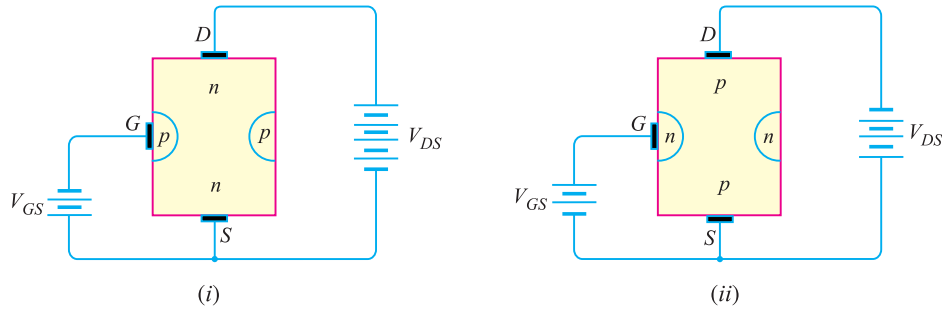

Fig. 19.2
**JFET polarities.** Fig. 19.2 (i) shows *n*-channel JFET polarities whereas Fig. 19.2 (ii) shows the *p*-channel JFET polarities. Note that in each case, the voltage between the gate and source is such that the gate is reverse biased. This is the normal way of JFET connection. The drain and source terminals are interchangeable *i.e.*, either end can be used as source and the other end as drain.